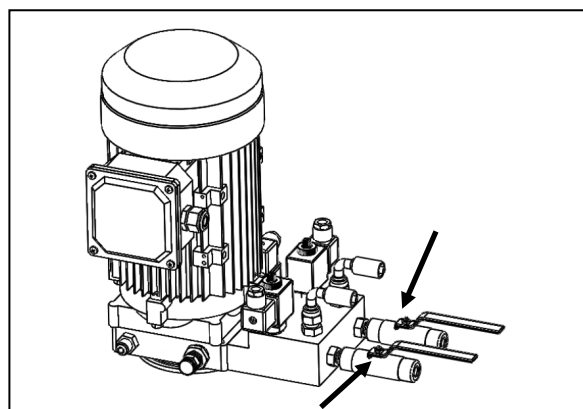

Fig. 29
- Open the oil make-up stop valve for main machine in the control box (Fig. 29).
- Open the oil make-up stop valve in the control box (*Fig. 29*).